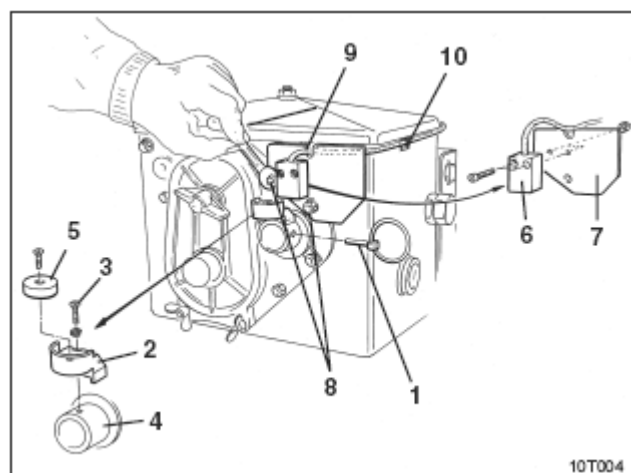
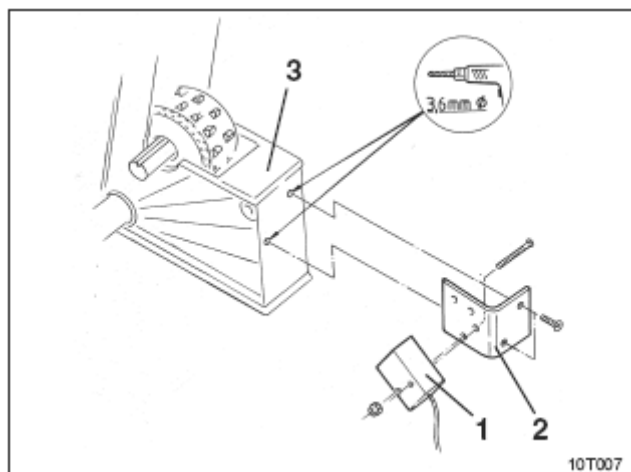
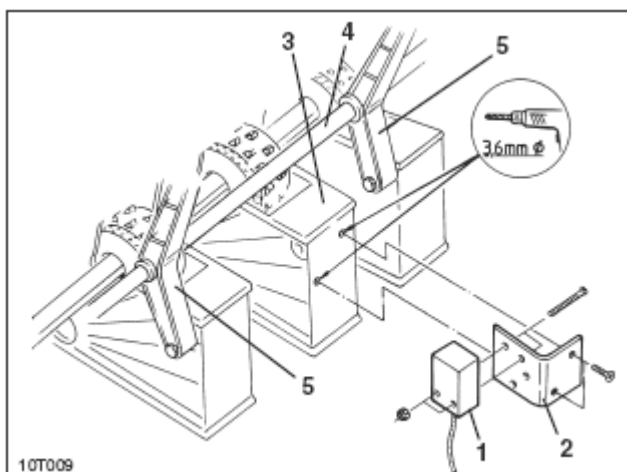

Fig. 9.1
Fig. 10.1
Fig. 10.3
- ☐ Remove lynch pin (Fig. 9.1/1. connecting agitator shaft to drive).
- ☐ Bolt the magnet holder (Fig. 9.1/2) on to the hollow gearbox input shaft (Fig.1/4) using M4 x 10 self-tapping screw (Fig. 9.1/3) and lock washer.
- ☐ Bolt magnet (Fig. 9.1/5) to magnet holder using a M4 x 10 self-tapping screw.
- ☐ Bolt sensor (Fig. 9.1/6) to sensor holder (Fig. 9.1/7).
- ☐ Bolt sensor holder (Fig. 9.1/7) to gearbox using two housing nuts (Fig. 9.1/8).
- ☐ Fitt sensor cable (Fig. 9.1/9) to tractor cab.
(Fig. 9.1/10) and cable ties.
- ❑ Insert lynch pin (Fig. 9.1/1. into hollow gearbox input shaft).
- ☐ Bolt sensor (Fig. 10.1/1) to sensor holder (Fig. 10.1/2).
- ☐ Using the borer supplied, make two holes (Ø 3,6 mm) in the last sowing housing (Fig. 10.1/3), outside left.
- ☐ Bolt sensor holder (Fig. 10.1/2) to sowing housing (Fig. 9.1/7).
- ☐ Bolt sensor (Fig. 10.3/1) to sensor holder (Fig. 10.3/2).
- ☐ Using the borer supplied, make two holes (\varnothing 3,6 mm) in a sowing housing (Fig. 10.3/3). Choose a sowing housing located between two bearings (Fig. 10.3/5) on the lay shaft (10.3/4).
- ☐ Bolt sensor holder (Fig. 10.3/2) to sowing housing (Fig. 9.1/7).